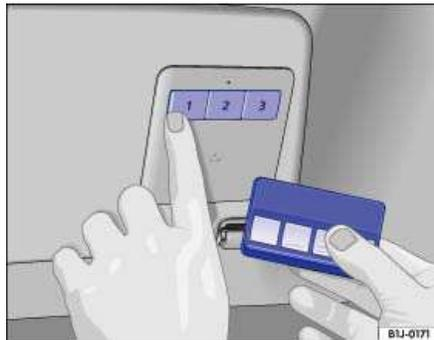

Fig. 42 To program: Simultaneously press the buttons for the HomeLink Universal Transmitter and the remote control.
- 3.** Using both hands, simultaneously press and hold both the HomeLink button you want to program (**1**, **2**, or **3**) and the hand-held transmitter button, as shown ⇒ fig. 42. **Do not release the buttons until the HomeLink indicator light flashes slowly and then rapidly.** When the indicator light flashes rapidly, release both buttons. The rapid flashing indicates successful programming.